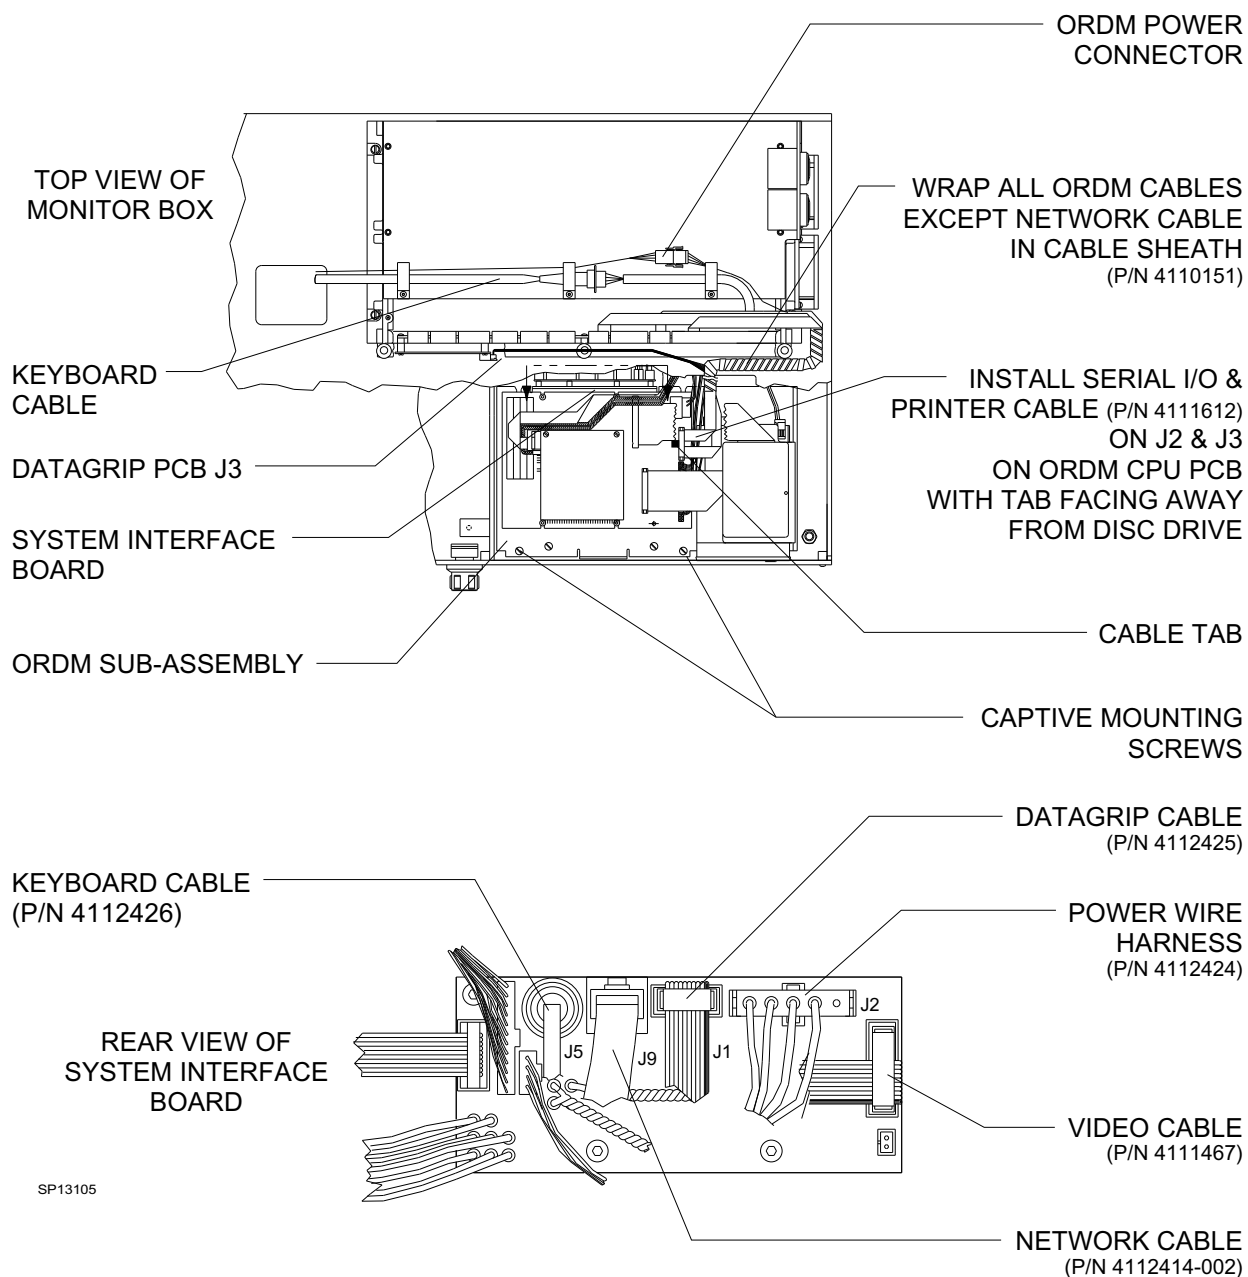

Figure 5: ORDM SUB-ASSEMBLY INSTALLATION
28. If the ORDM cables are not connected to the ORDM sub-assembly, connect the cables as shown in Figure 5 at this time. Wrap all of the cables except the network cable in the cable sheath (P/N 4110151) provided in the parts kit.
30. Connect the network cable to J9 on the system interface board at the rear of the ORDM sub-assembly. See Figure 5.
32. Join the ORDM power wire harness to the ORDM power connector. Route the power wire harness through the cable clamps as shown in Figure 5.
33. Join the keyboard cable to the cable from J5 on the System Interface Board. Route the cables through the clamps on the card cage assembly as shown in Figure 5.
37. Connect the ORDM cable (labeled DG) to J3 on the Datagrip PCB located on the front of the chassis. (This cable originates at J1 on the system interface board on the back of the ORDM sub-assembly. Ref. Figure 5.)